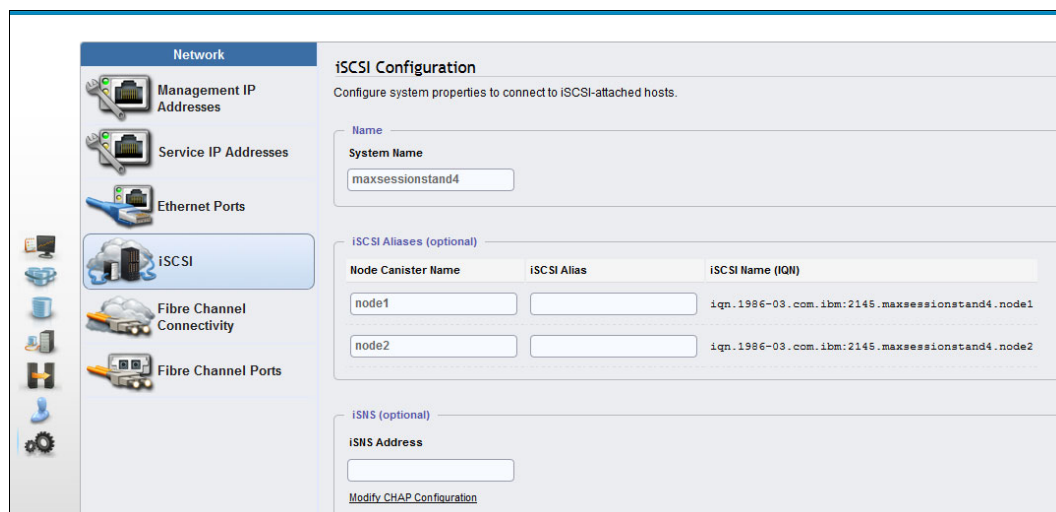

Figure 5-4 IBM Storwize iSCSI configuration
1. Connect to the IBM Storwize clustered system with a browser by clicking **Settings** → **Network** → **iSCSI**, as shown in Figure 5-4.